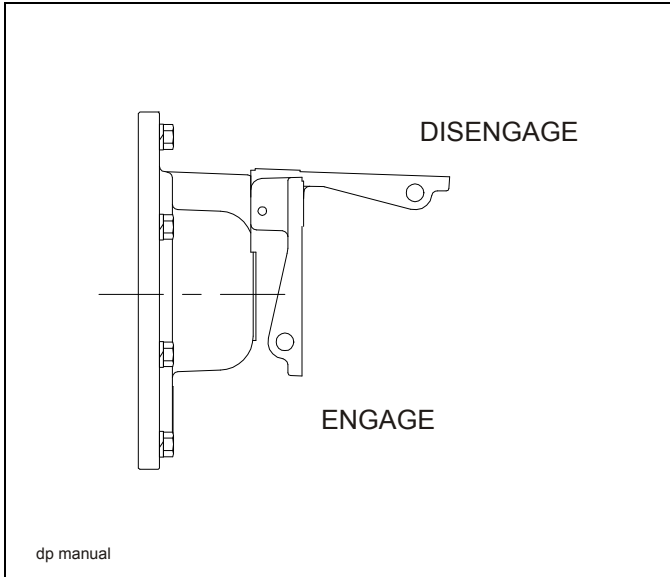

Figure 3-7: Manual Lever Kickout
- 1. The manual freespool clutch is operated by pulling lever kickout (See Figure 3-7.)